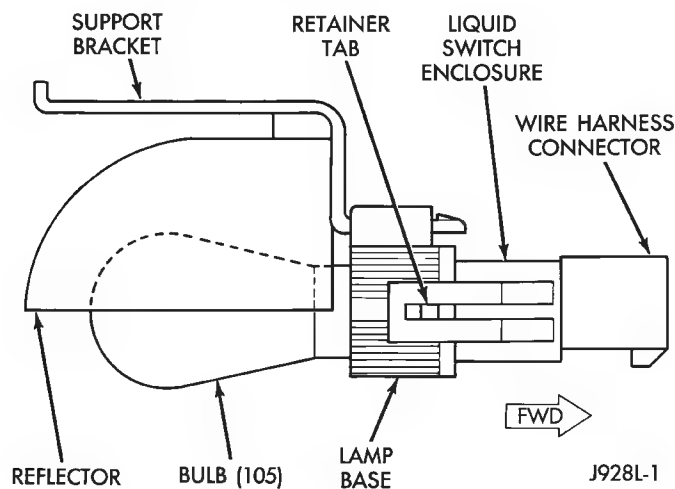

Fig. 23 Underhood Lamp Components
- (1) Disconnect the wire harness connector from the underhood lamp (Fig. 23).
- (2) Rotate the bulb counter-clockwise and remove it from the lamp base socket.